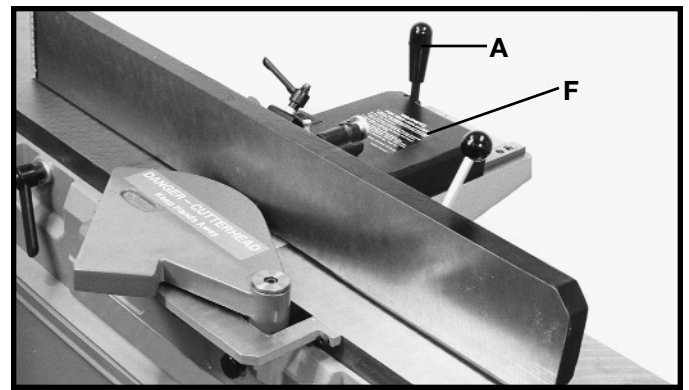

Fig. 30
The fence can be moved across the table by loosening lock lever (A) Fig. 30, move the fence to the desired position, and tighten lock lever (A) securely. As the fence is moved across the table, the sliding portion of the fence bracket (F) guards the cutterhead in back of the fence as shown.